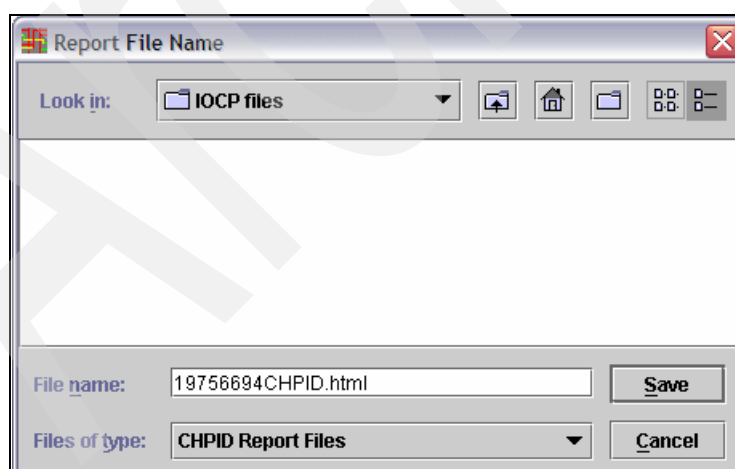

Figure 6-27 CMT - Report File Name
2. Enter the report File name (or accept the name that the CHPID Mapping Tool enters) and click **Save** (Figure 6-27).